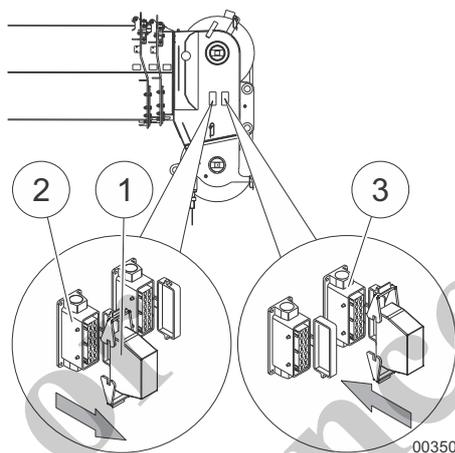

Fig. 241 Plugging the bypass plug on the telescopic boom head
- 18 Unplug the bypass plug (1) in Fig. 241 from the left bush (2) in Fig. 241 on the telescopic boom head and plug it into the right bush (3) in Fig. 241.